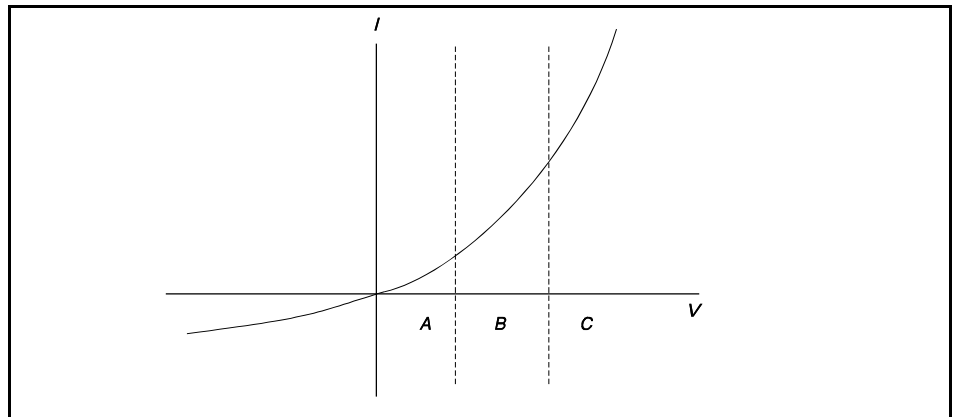

Figure 6-3.
An ideal diode response curve is plotted in Figure 6-3.
For accurate power measurements over all three regions illustrated in Figure 6-3, the detector response is pre-calibrated over the entire range. The calibration data is stored in the instrument and recalled to adjust each sample of the pulse power measurement.
**Signal Harmonics.** Measurement errors resulting from harmonics of the carrier frequency are level-dependent and cannot be calibrated out. In the square-law region of the detector response (Region A, Figure 6-3), the signal and second harmonic combine on a root mean square basis. The effects of harmonics on measurement accuracy in this region are relatively insignificant. However, in the linear region (Region C, Figure 6-3), the detector responds to the vector sum of the signal and harmonics. Depending on the relative amplitude and phase relationships between the harmonics and the fundamental, measurement accuracy may be significantly degraded.